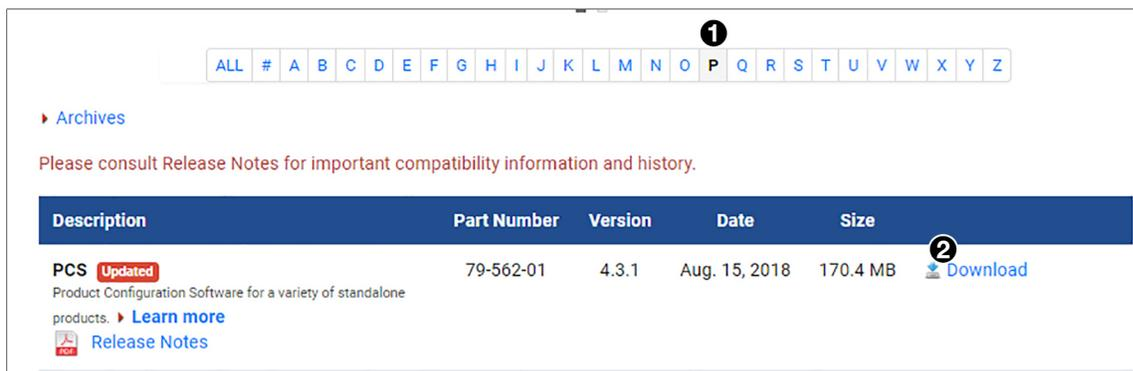

Figure 7. PCS Download Link
2. Move the mouse pointer to the Software link (②) in the Downloads column and click it.
3. On the Download Center Software page, click the P (see figure 7, ①).